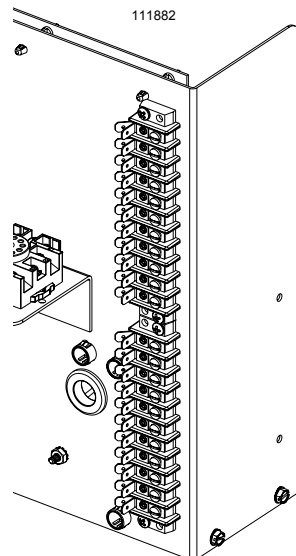

Figure 11: 22 Position Terminal Strip
All accessory equipment is hooked-up to the 22 terminal barrier strip located on the back of the control box. See Figure 11. There are no installer connections inside the control box. **NO ACCESSORY EQUIPMENT SHOULD BE INSTALLED IN THE CONTROL BOX!**
The thirteen (13) command inputs for the LPX1000 require a switch closure to COMMON of less than 100 OHMS resistance and for more than 100 milliseconds duration. Two of the inputs - ALTERNATE and RADIO OPEN - are momentary inputs where the signal must be released and re-entered to be recognized. The remaining inputs can be continuous signals. A label on the left side of the control box lists the function of each of the terminals on the barrier strip, see Figure 11. Also see the Reference Chart on Page 17 and 18.